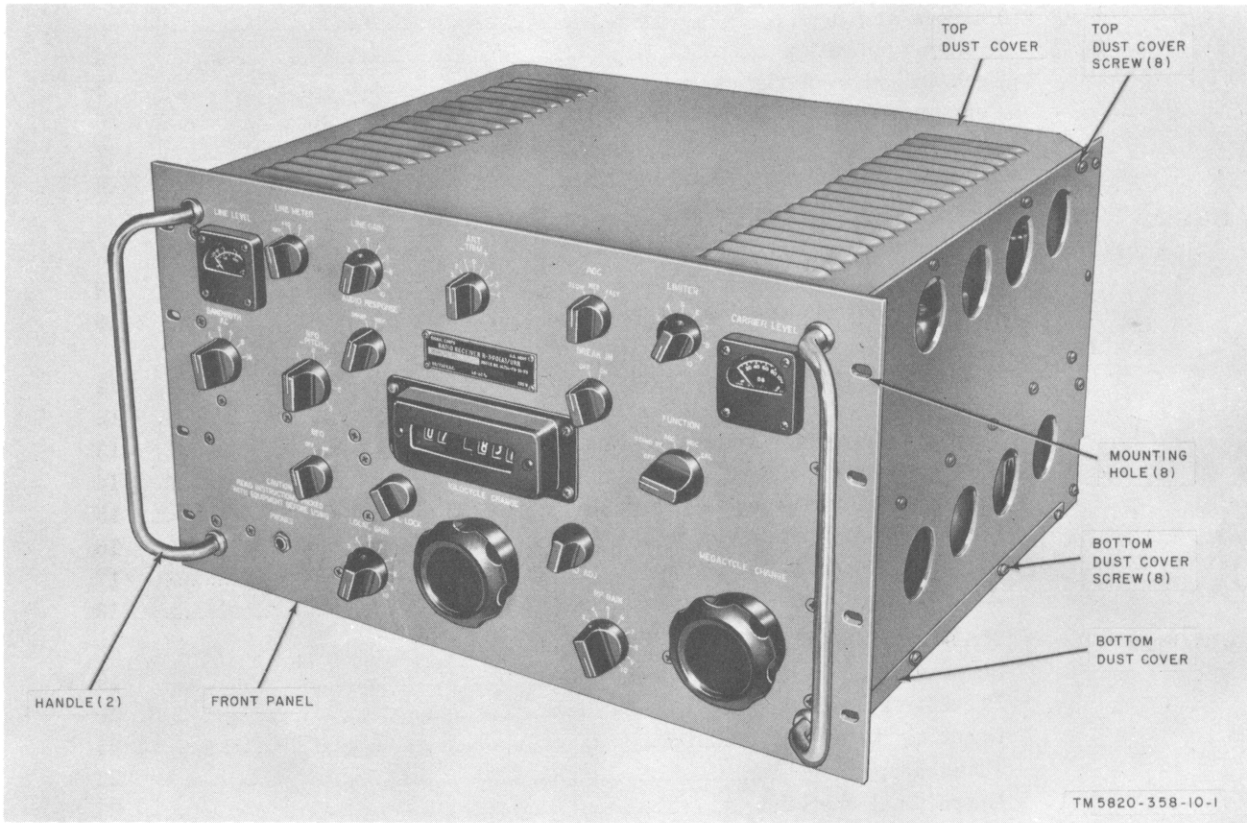

Figure 1. Radio Receiver R-390A/URR.
This manual describes Radio Receiver R-390A/URR (fig. 1) and covers its operation, and operator's maintenance. It includes cleaning and inspection of the equipment and replacement of parts available to first echelon maintenance. Throughout this manual, Radio Receiver R-390A/URR is referred to as the receiver.
a. The receiver (fig. 1) is a general-purpose receiver for use in both fixed and mobile applications. The receiver provides reception of continuous-wave (cw), modulated-continuous-wave (mcw), amplitude-modulated (am.), frequency-shift keyed (fsk), and single-sideband (ssb) signals.
a. The receiver (fig. 1 and 6) is designed for mounting in a standard 19-inch rack or a table-top cabinet.